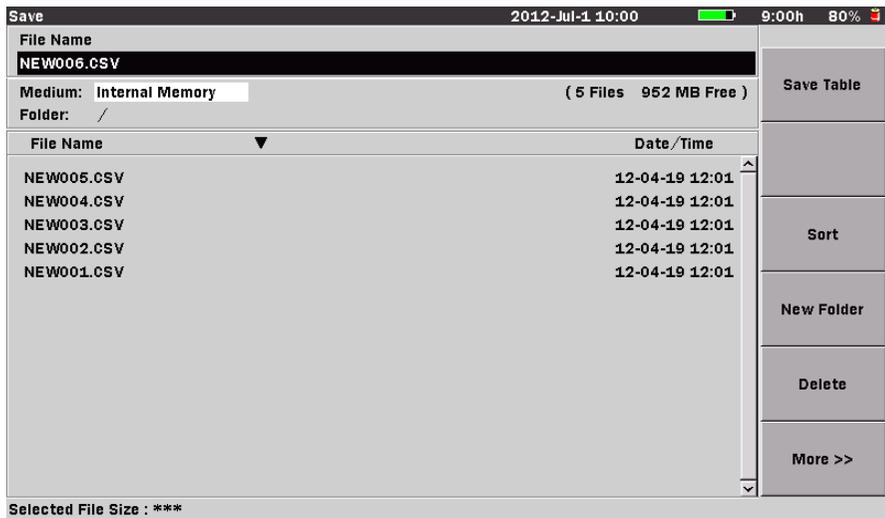
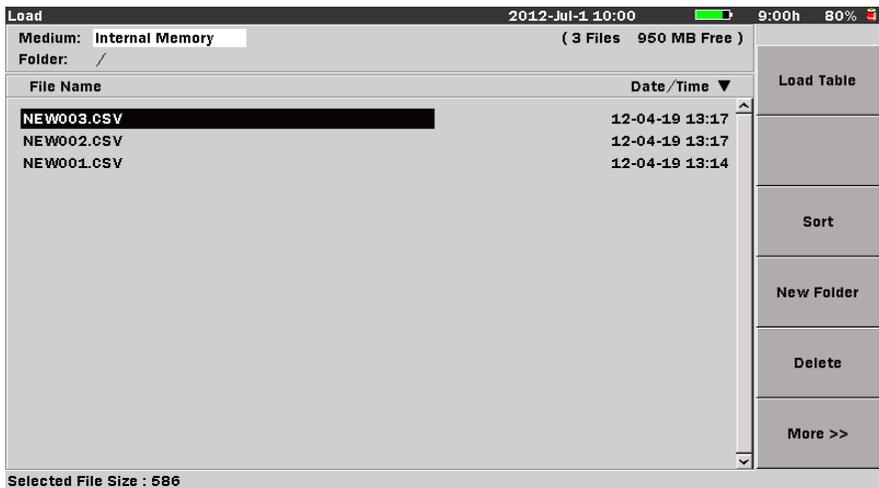

Figure 8-13: Save screen – Loss Test Set mode
Figure 8-14: Load screen – Loss Test Set mode
1. Press the **Save key**. The Save screen appears with the File Name field highlighted (see Figure 8-13, below).
Use either the Save screen (see Figure 8-13 on page 8-34) or the Load screen (see Figure 8-14 on page 8-39) to delete any data files stored in the internal memory or on a USB memory stick. You can delete a single file, multiple files or all of the files in the current directory.
1. Press the **Save key**, or the **File key**, if not already displaying either the Save screen (see Figure 8-13 on page 8-34) or the Load screen (see Figure 8-14 on page 8-39).
Use either the Save screen (see Figure 8-13 on page 8-34) or the Load screen (see Figure 8-14 on page 8-39) to copy data files stored in the internal memory or on a USB memory stick. You can copy a single file, multiple files or all of the files in the current directory.
1. Press the **File key**. The Load screen appears (see Figure 8-14, below).